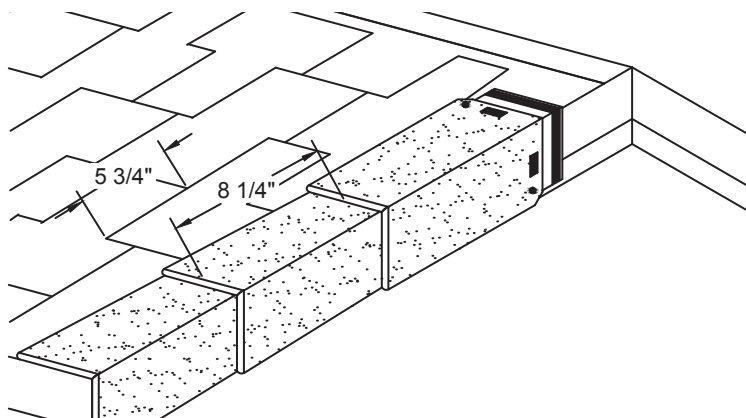

Figure 27 - Installation of EZ-Ridge® Shingles on Rake Edges of the Roof
3. Note: Installation with exposed nails may affect the aesthetic appeal of EZ-Ridge® shingles. (See Figure 27)